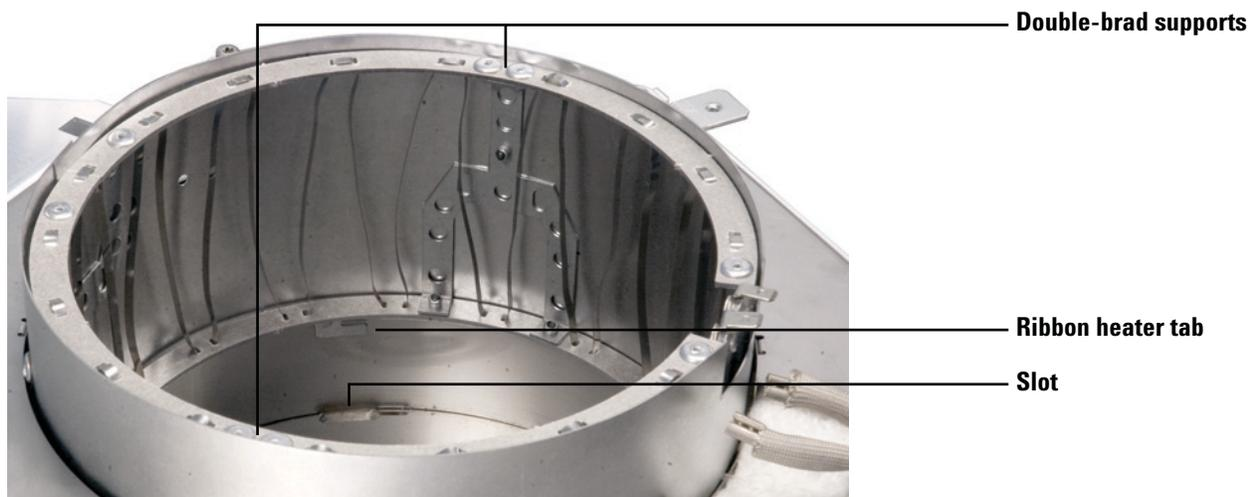

Figure 22 Removing the oven ribbon heater
- b Using both hands, hold the oven ribbon heater on the double-brad supports as shown in Figure 22.